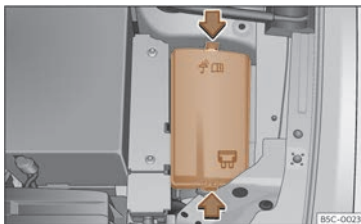

Fig. 217 In the engine compartment: lid of the fuse box.
- Press the locking tabs to unlock the fuse box cover >>> **Fig. 217**.